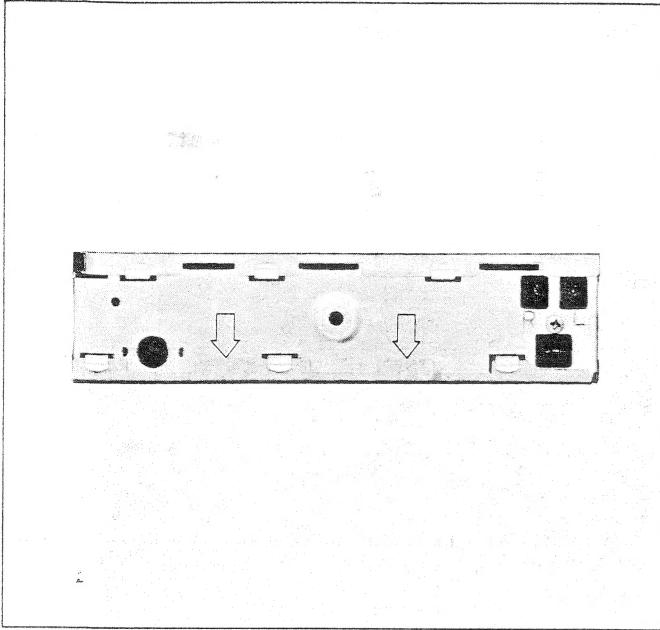

Figure 4-1
1. Remove the Bottom cabinet, then take it out. (See Fig. 4-1)